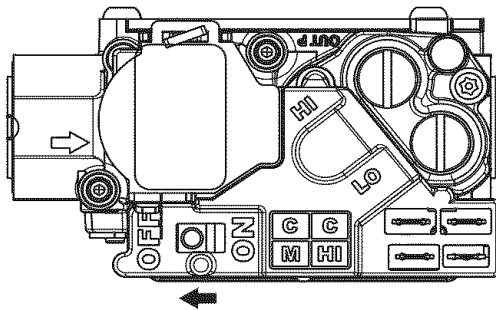

Fig. 11 - Control Switch to OFF
5. The gas valve will have a control switch to turn off and on. Turn the control switch on the gas control to the OFF position and wait 5 minutes. (See Fig. 11.) Then smell for gas, including near the floor. If you smell gas, **STOP!** Follow "B" on furnace label. If you don't smell gas, go to next step.